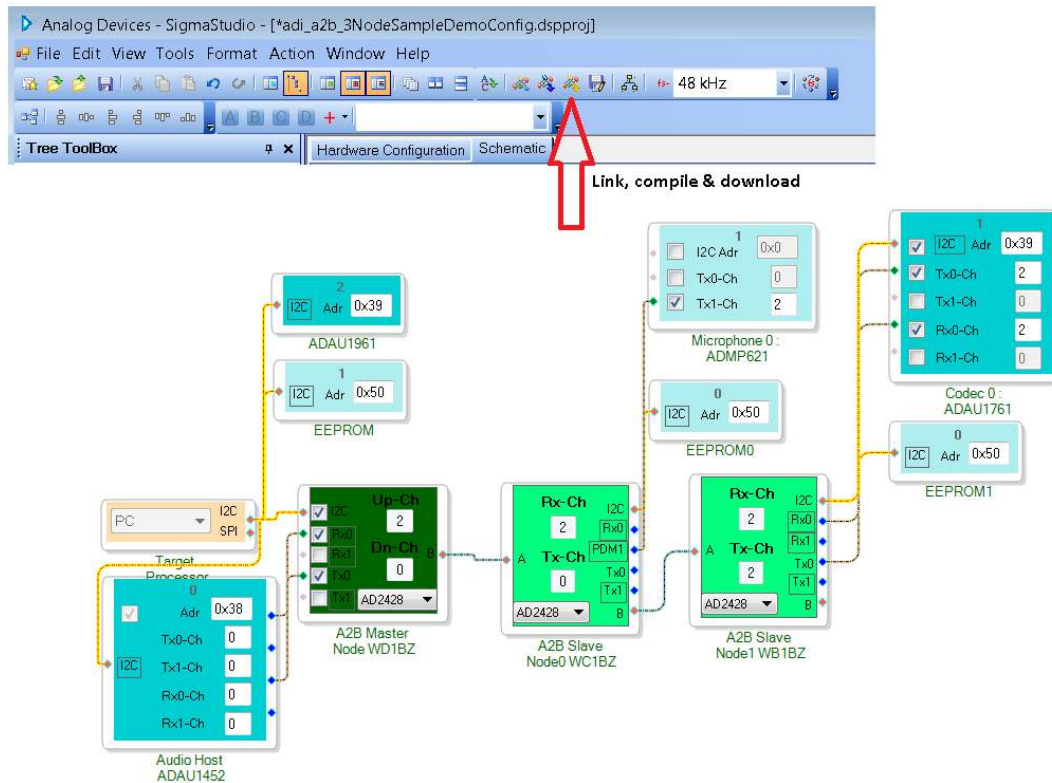

Figure 2. Software Schematic for adi_a2b_3NodeSampleDemoConfig.dspproj A²B Example Project
- Open the adi_a2b_3NodeSampleDemo.dspproj example project, which is located in the (default) C:\Analog Devices\ADI_A2B_Software-Rel19.3.0\Schematics\BF\A2BSchematics directory. Click the *Link-Compile-Download* icon, as shown in Figure 2.